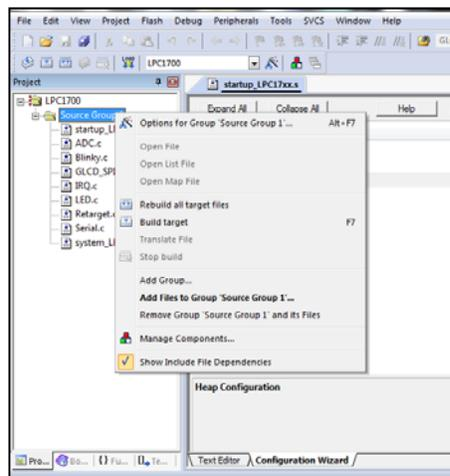

Fig 6: Importing all .c and .h files to uVision
3. Click "Add" and then "Close". All the files selected should now be displayed in the Project workspace under the "Source Group 1" folder tree, resembling that of Fig. 6.